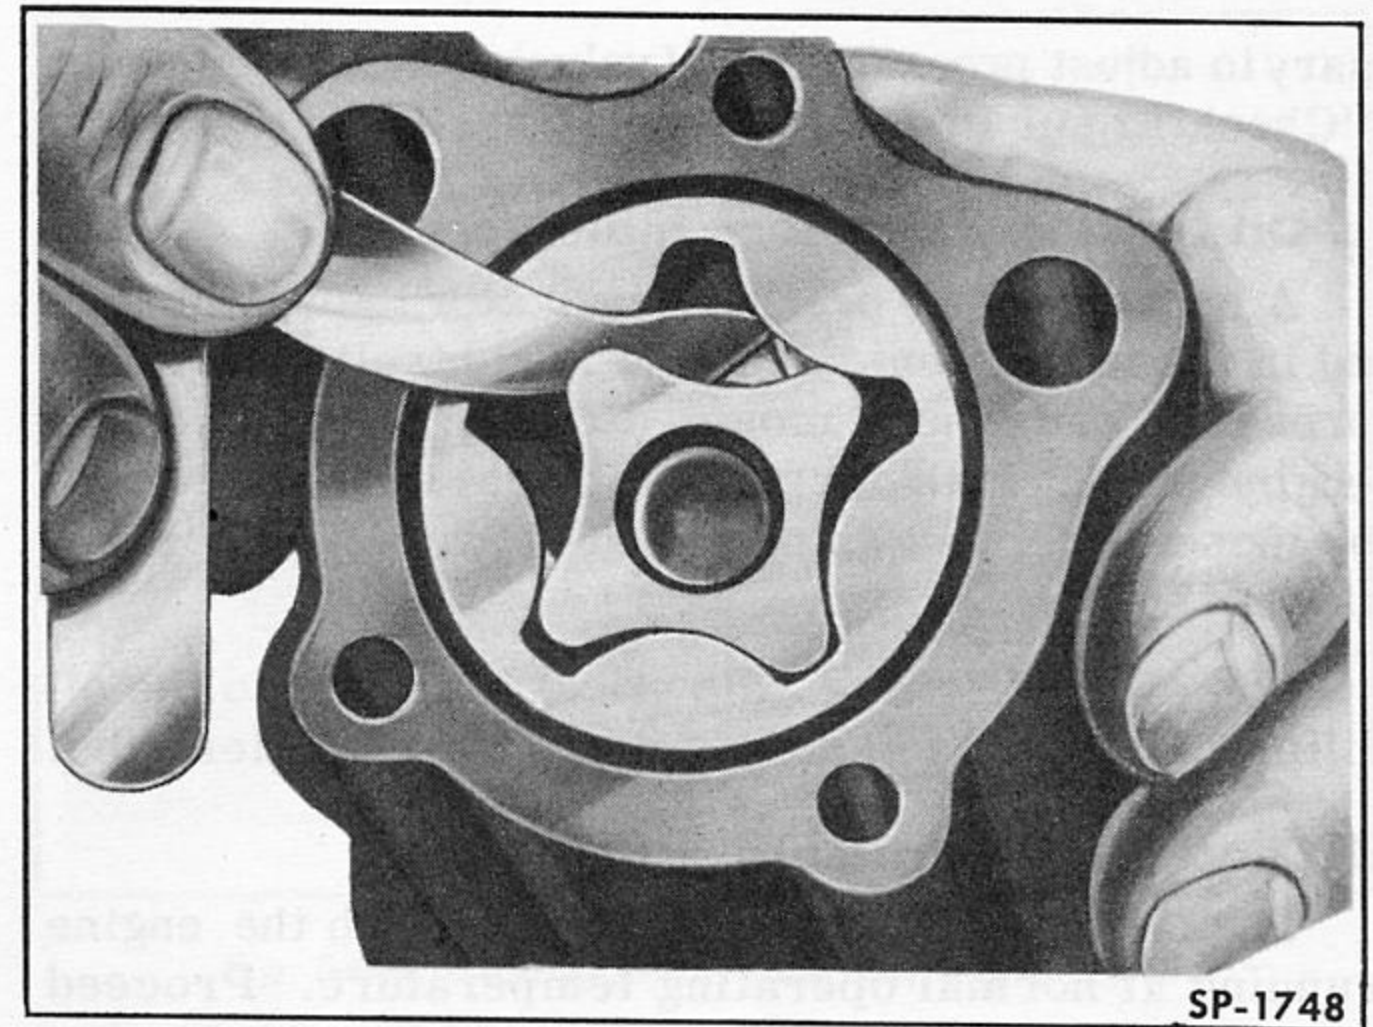

Fig. 51—Checking Clearance Between Oil Pump Rotors
3. Measure thickness of each rotor with a micrometer. If thickness varies more than .001 inch between the two rotors replace rotors and shaft. Install rotors in pump body. Measure clearance between lobes of rotors as shown in Fig. 51. This clearance should be .010 inch or less. If more than .010 inch replace both rotors and shaft.